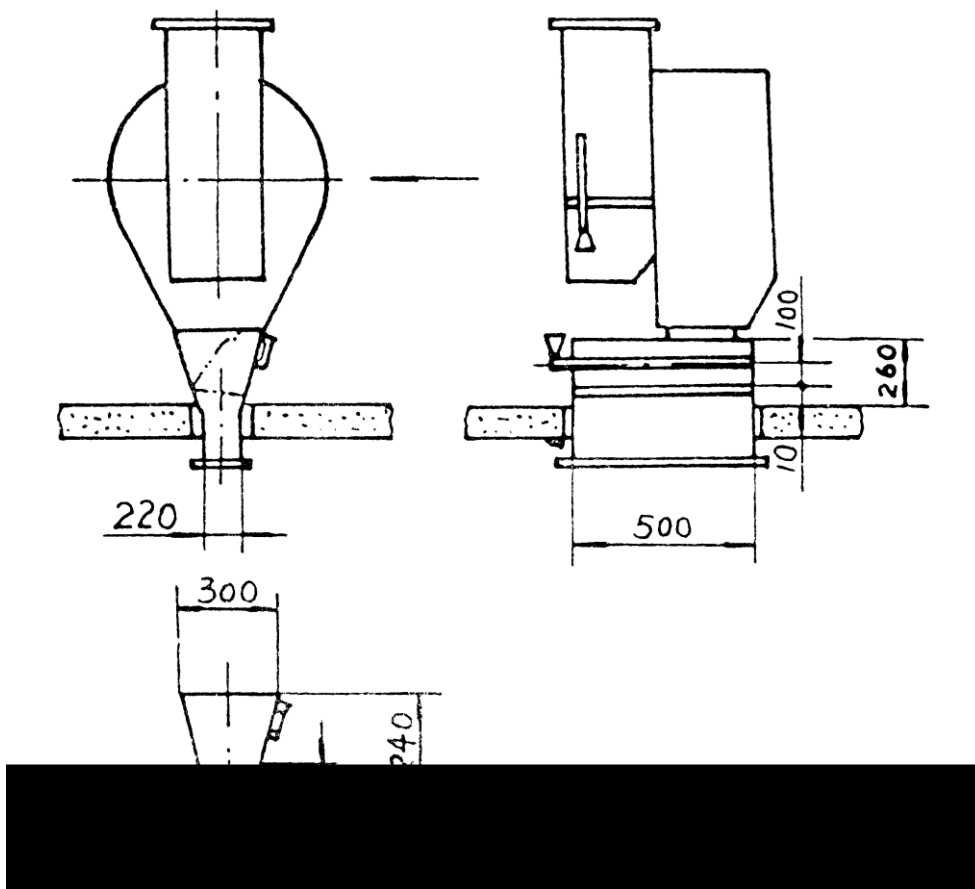

Fig.9 Feed outlet
4.1.2 The equipment must be installed on the firm foundation. Dig the foundation according to the base size on the schematic diagram (see Figure 9), pour cobble concrete and screw the foundation bolt on. Some good practice should be followed when installing the pellet mill on the floor to make sure that vibration of machine during the normal run can be absorbed after the installation.